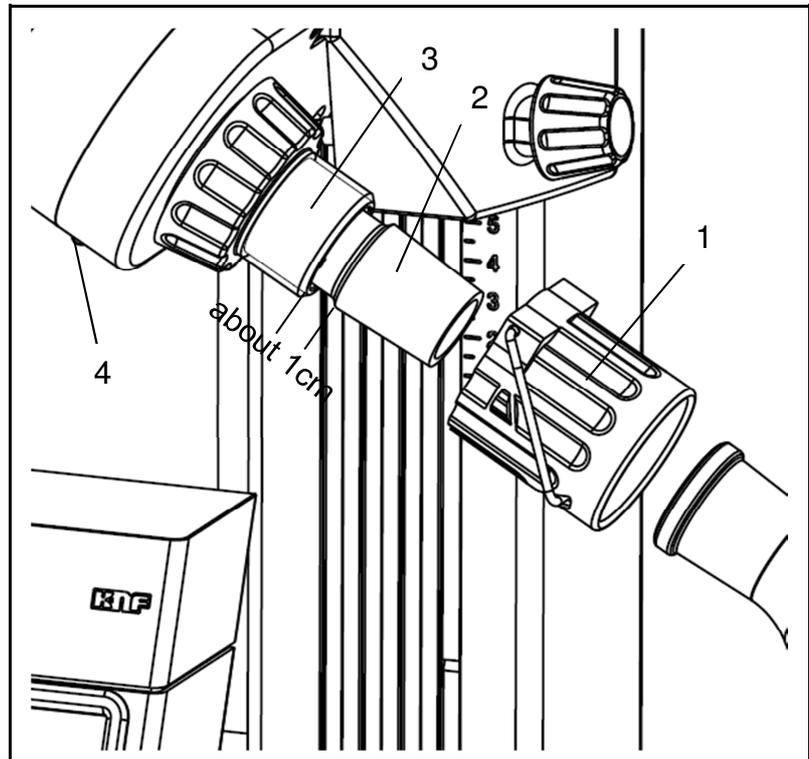

Fig. 12: Changing vapour tube
1. Screw off flask nut (Fig. 12/1).